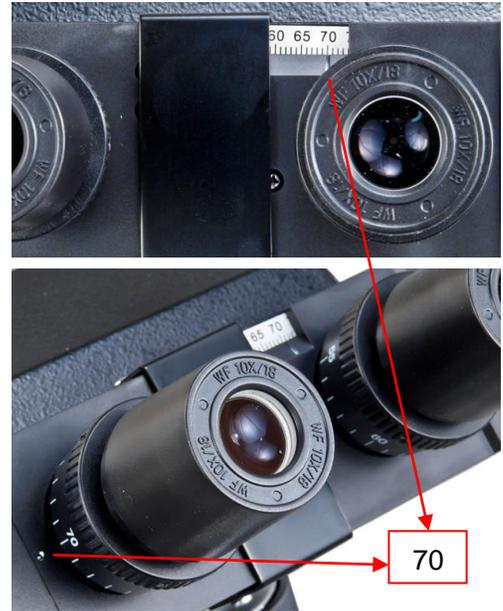

Fig. 2
- 2) Rotate the diopter ring on the right eyepiece tube until its numerical value is the same as your interpupillary distance, for example, **70** in the right figure (See **Fig. 2**).